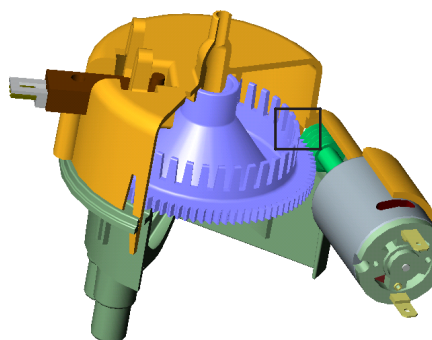

Fig. 8 Water selector internal
- This motor uses a plastic worm to drive the water distribution disc (fig.8 / 9).